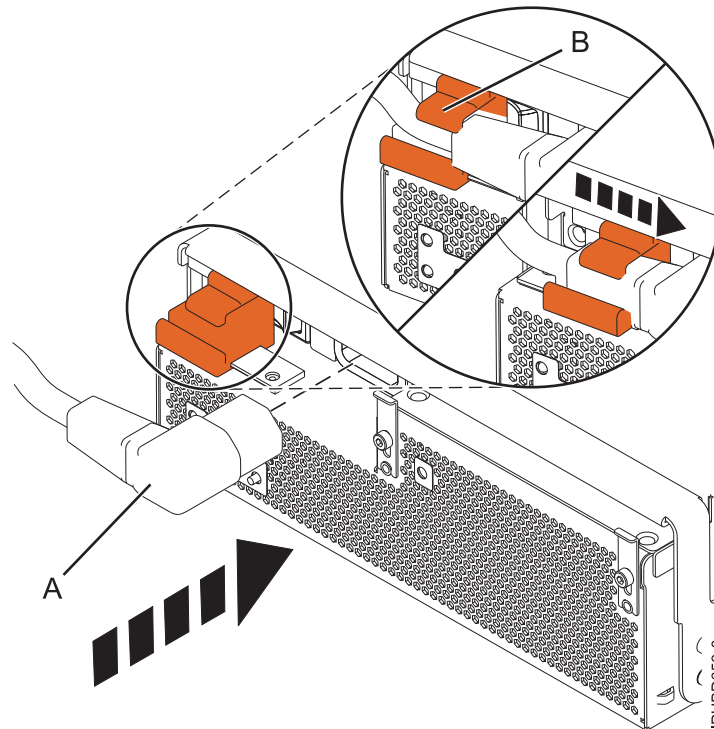

Figure 19. Connecting the power cable to the front of an expansion unit
8. Reconnect the power cable **(A)** to the front of the power supply, and then slide the cable retention bracket **(B)** to the closed position to secure the cable as shown in Figure 19. By moving the bracket to the closed position, you turn on the power supply.